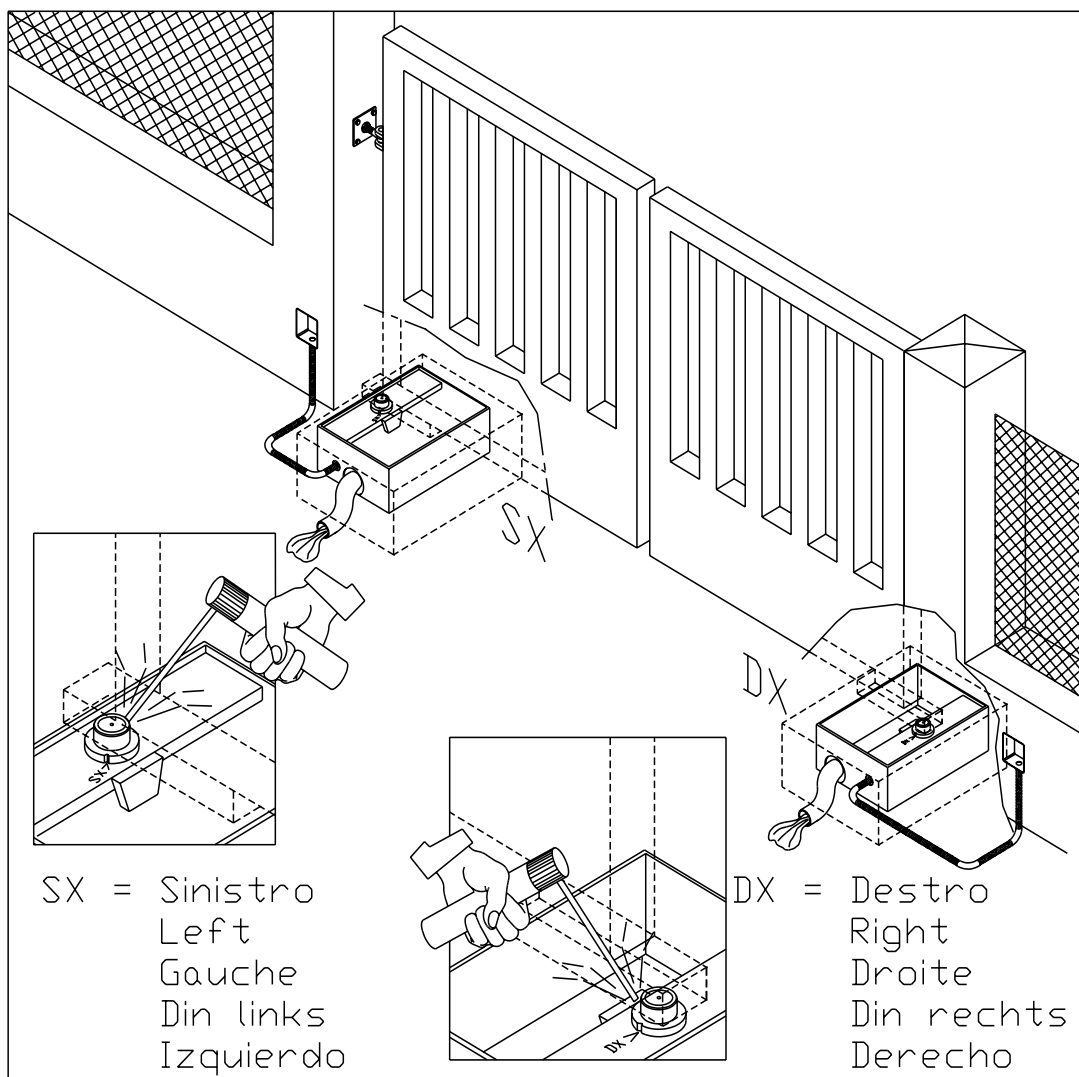

FIG. 4
- Remove the four M12 (fig.4-rif.G) dowels from the controller base plate.
- Insert the three M12 x 70 (fig.4-rif.V) screws.